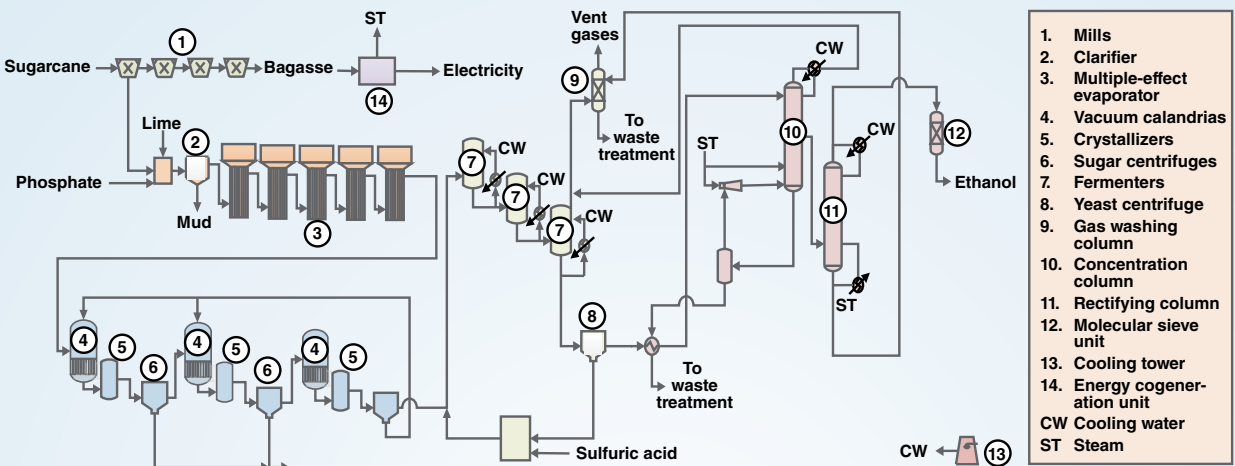

FIGURE 1. Traditional ethanol production process from sugarcane
- A 6 million-ton/yr sugarcane processing unit producing 270 million L of anhydrous ethanol and 420,000 ton of raw sugar per year built in Brazil (the process equipment is represented in the simplified flowsheet below in Figure 1)